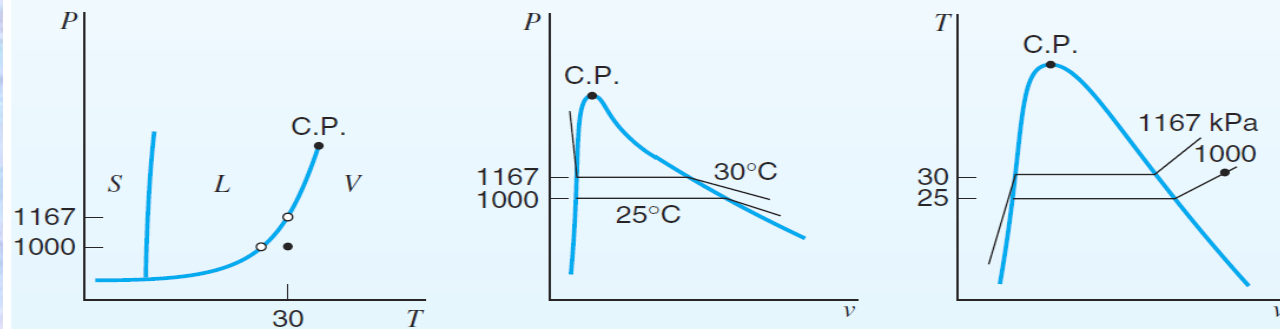

FIGURE 2.13 Diagram for Example 2.3a.
- Enter Table B.2.1 with 30°C . The saturation pressure is 1167 kPa . As we have a lower P (see Fig. 2.13), it is a superheated vapor state. We could also have entered with 1000 kPa and found a saturation temperature of slightly less than 25°C , so we have a state that is superheated about 5°C .